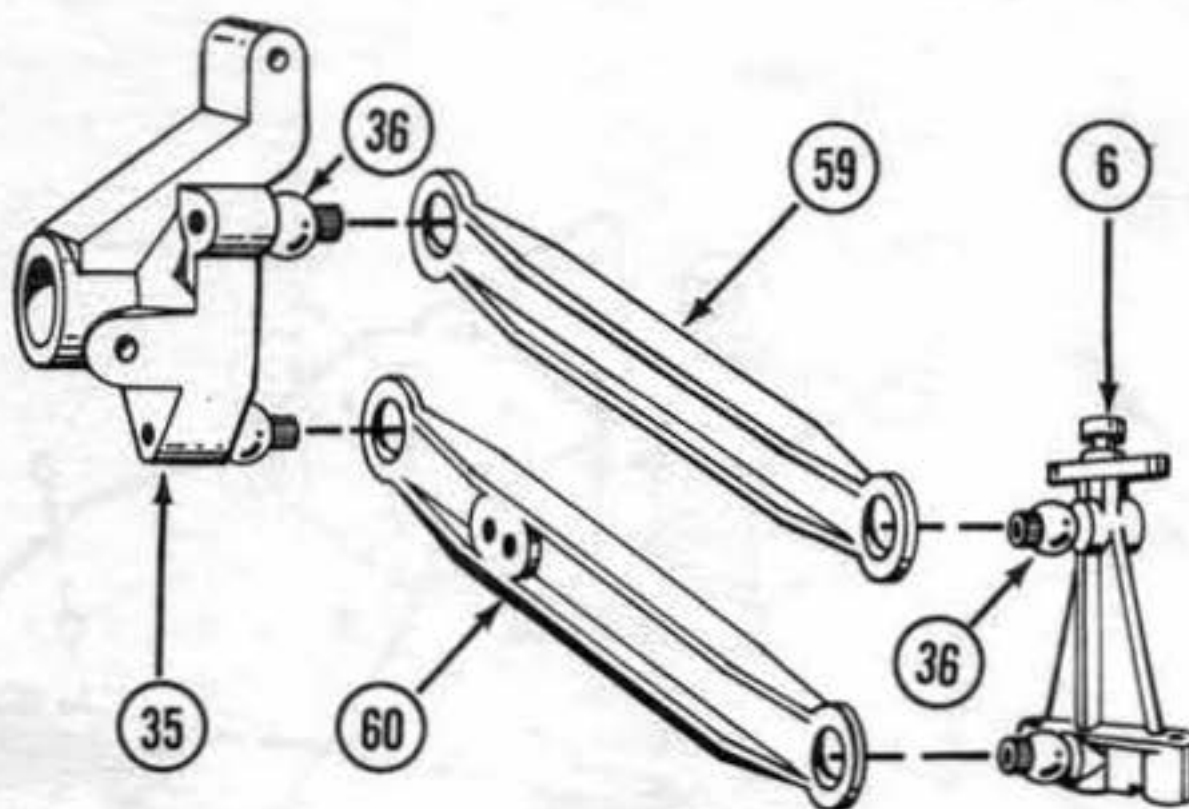

FIG. 24
27. Snap on one end of upper trailing link (59) onto upper ball joint (36) in side bulkhead. Fig.24
28. Snap free end of upper trailing link (59) onto upper ball joint in hub (35). Fig.24
29. Orient lower link (60) so rib is on bottom and shock mount holes are towards rear. Fig.24
30. Snap forward end of lower link (60) onto lower ball joint (36) in side bulkhead (6). Fig.24
31. Snap rear end of lower link (60) onto lower ball joint (36) in hub carrier (35). Assure freedom of movement. Fig.24